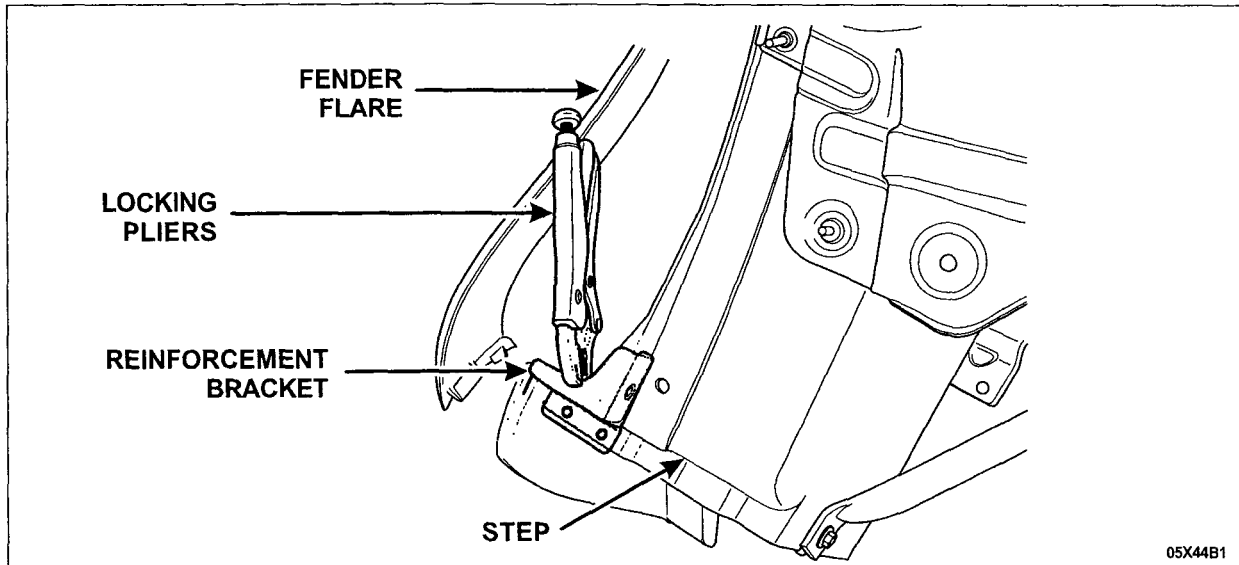

FIGURE 2
3. Position the fender flare only slightly away from the step and fender (75-100 mm or 2-3 inches), and temporarily attach the reinforcement bracket to the step using locking pliers. See Figure 2.